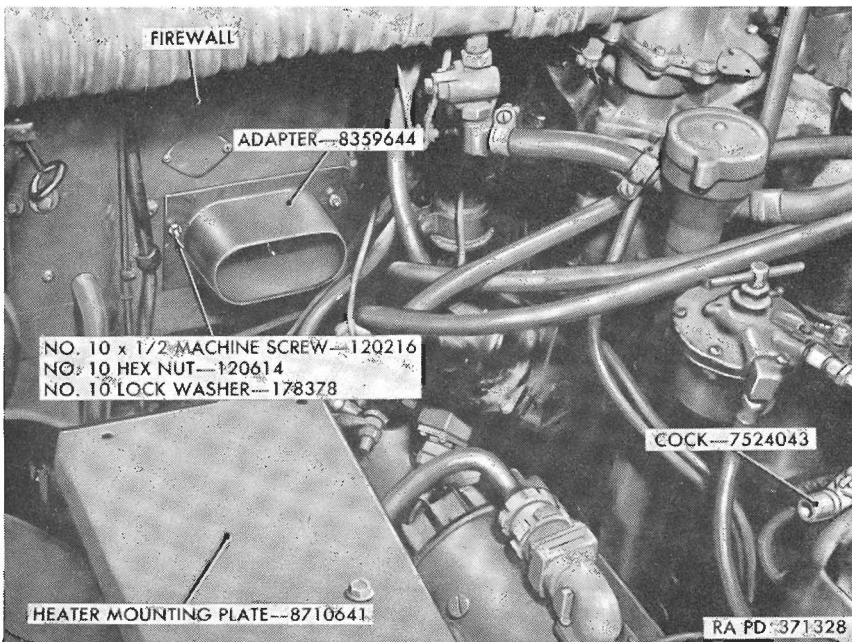

Figure 6. Heat duct-to-firewall adapter installed.
s. Position heat duct-to-firewall adapter (Y) over heater opening in firewall (fig. 6), and drill four  $\frac{3}{16}$ -inch diameter holes in firewall, using adapter as a template.